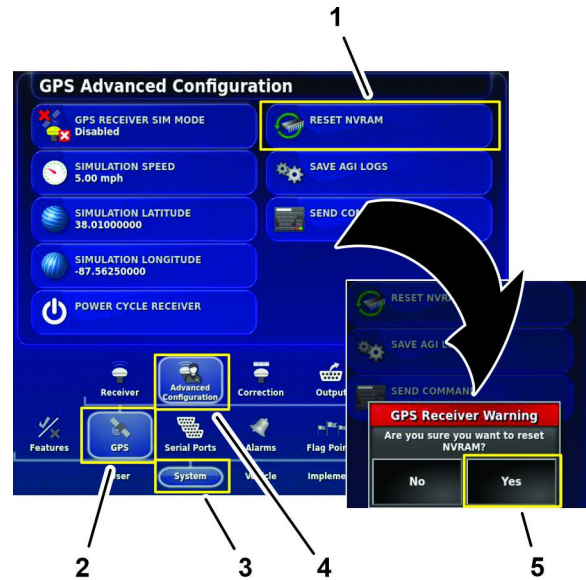

Figure 290
1. In the setup screen, press the SYSTEM icon, GPS icon, and ADVANCED CONFIGURATION icon (Figure 290).
2. In the GPS Advanced Configuration screen, press the RESET NVRAM icon (Figure 290).
3. In the GPS receive warning dialog box, press the YES icon (Figure 290).